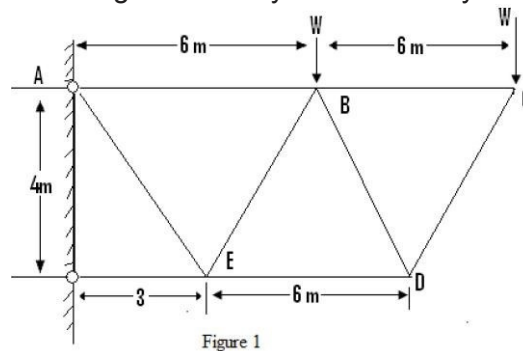

Figure 1
5. cantilever truss is loaded as shown in Figure 1. Analyze the truss by method of sections.